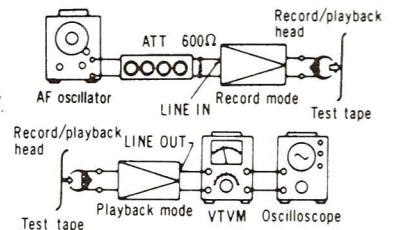

Fig. 16
H Overall gain [TAPE 2] Condition: <ul style="list-style-type: none"> <li>Record/playback mode</li> <li>Normal tape mode</li> <li>Input level controls ... MAX</li> <li>Standard input level: MIC ..... <math>-59.5 \pm 4</math> dB LINE IN ... <math>-24 \pm 4</math> dB</li> </ul> Equipment: <ul style="list-style-type: none"> <li>VTVM</li> <li>AF oscillator</li> <li>ATT</li> <li>Oscilloscope</li> <li>Resistor (600Ω)</li> <li>Test tape (reference blank tape) ... QZZCRA for Normal</li> </ul>	<p>1. Test equipment connection is shown in fig. 16.</p> <p>2. Place UNIT into Normal tape mode, and load the test tape (QZZCRA).</p> <p>3. Place UNIT into record mode.</p> <p>4. Supply 1 kHz signal (<math>-24</math> dB) from AF oscillator, through ATT to LINE IN.</p> <p>5. Adjust ATT until monitor level at LINE OUT becomes 0.4V.</p> <p>6. Playback recorded tape, and make sure the value at LINE OUT on VTVM becomes 0.4V.</p> <p>7. If measured value is not 0.4V, adjust VR3 (L-CH), VR4 (R-CH)</p> <p>8. Repeat from step (2).</p> <p style="text-align: center;">Fig. 16</p>
1. Test equipment connection is shown in fig. 16.
8. Repeat from step (2).